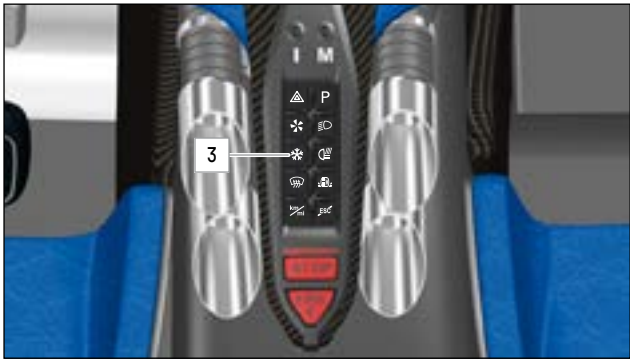

FIG.38 A/C BUTTON ON THE CENTRE CONSOLE
- ▶ Press the A/C button 3 (» Fig.38) to switch on the air-conditioning system.
- ▶ A/C button 3 (» Fig.38) flashes if A/C is in standby (activation conditions not met) and is lit continuously if the air-conditioning system is on.
Only press the A/C button 3 (» Fig.38) at over 30 km/h (18 mph), with the fan 2 (» Fig.37) switched on and if sufficient power is available.